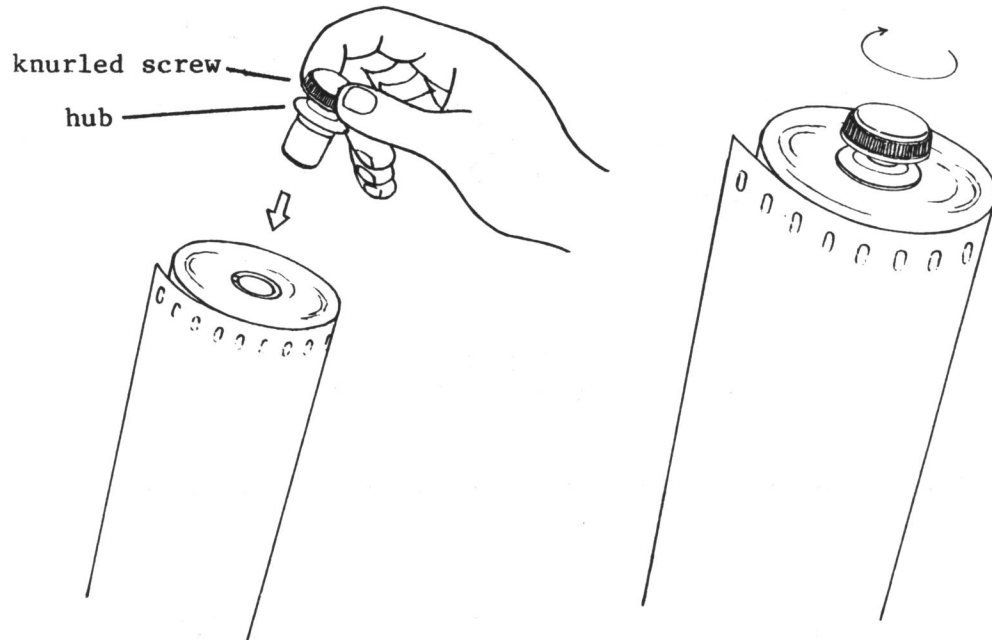

Figure 1-12
1. Push the media roll adapters into the ends of the media roll. The hubs should be flush with the roll ends. Tighten the knurled screws by turning them clockwise (see Figure 1-12). If you have trouble securing the adapter, hold the hub still as you are turning the screw. The adapter should fit snugly. Overtightening can cause the media core to flange out.